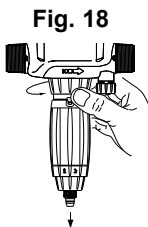

Fig. 18
- Unscrew the retaining ring (Fig. 18).